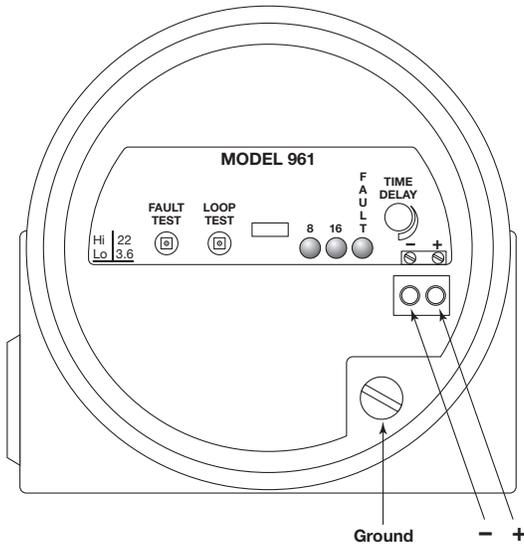

Figure 8
4. Refer to Figure 8. Connect wires to terminals (+) and (-) on the terminal block. Unshielded cable may be used. If shielded cable is used, attach shield to green head screw.